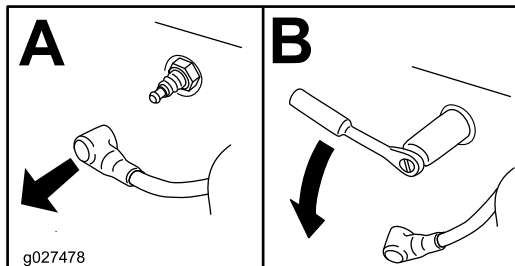

Figure 41
4. Remove the spark plug (Figure 41).